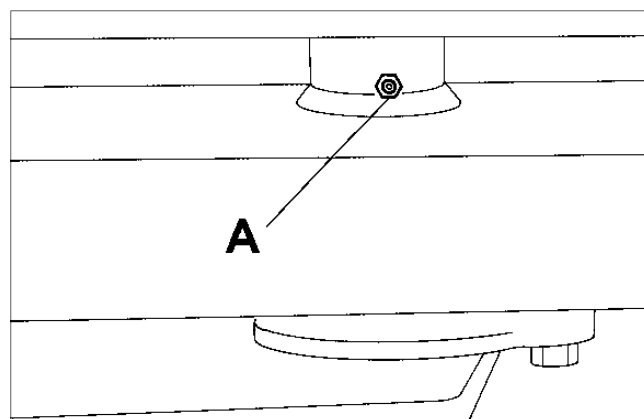

Fig.32
- (c) Pivote central del eje trasero (A Fig 32)